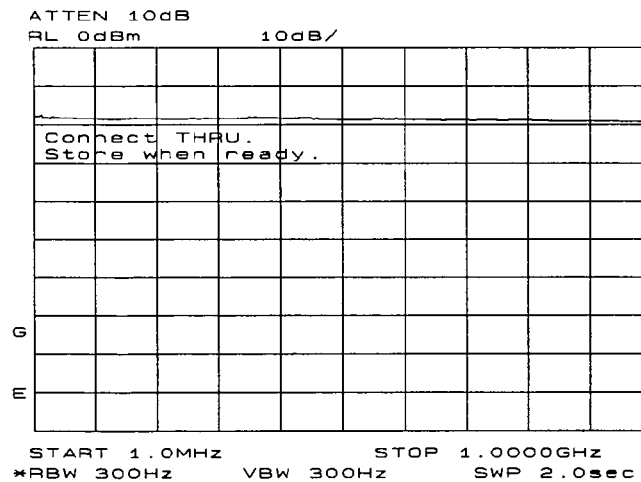
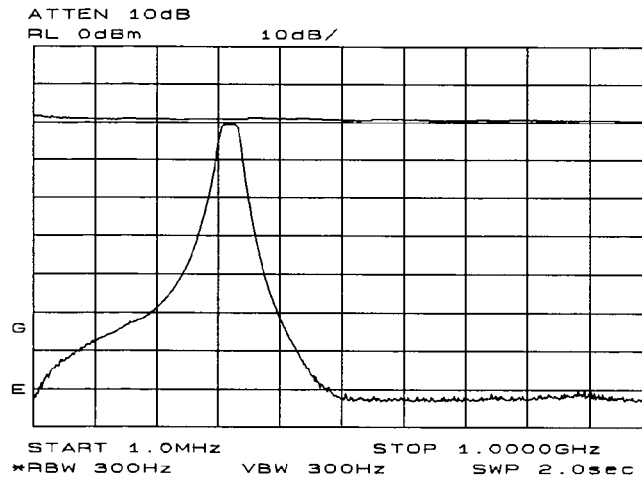

Figure 3-21. Guided calibration routines prompt the user.
Figure 3-22. The thru trace is displayed in trace B.
5. Calibration in a transmission measurement is done using a through (thru). To calibrate using a thru, press **AUX CTRL**, **TRACKING GENRATOR**, **SOURCE CAL MENU**, **CAL THRU**. The guided calibration routine prompts you to connect the thru, as illustrated in Figure 3-21. Connect the thru, and press **STORE THRU** when ready. When **STORE THRU** is pushed, the thru trace is stored into trace B and into an internal memory location in the analyzer. The state information of the thru-calibration trace is stored in state register #9. This trace can be recalled for future use. Figure 3-22 shows what appears on-screen after the thru trace is stored. Trace B is in view, depicting the thru trace.